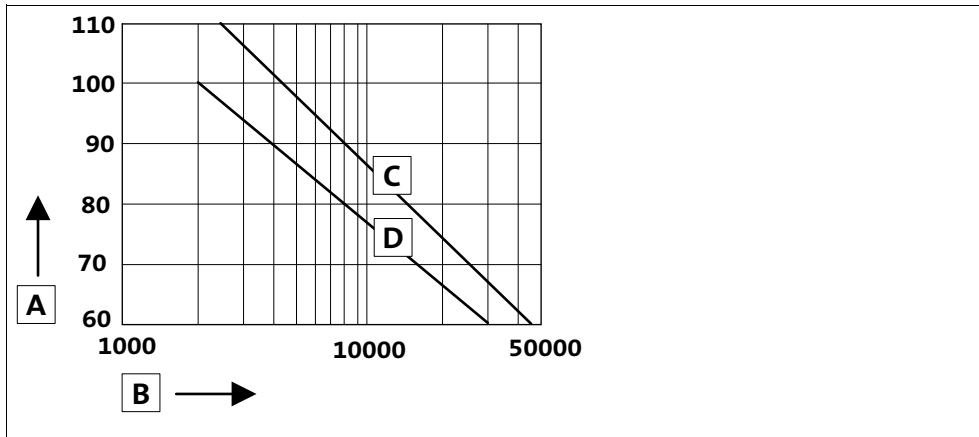

Fig. 19 Lubricant diagram
- The lubricant change depends on the lubricant temperature, see Fig. 19.